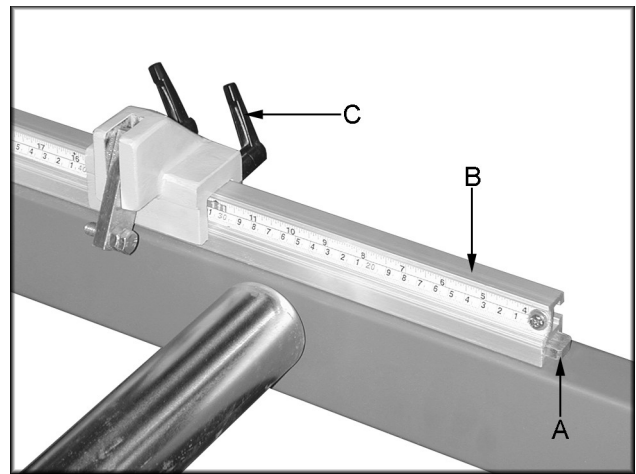

Figure 11
5. Line up the t-slot in rail with the square head bolts (A, Figure 11) in the roller table and slide the rail (B, Figure 11) into position.
6. Line up the square nuts on the stop handles (C, Figure 11) with the t-slot and slide the stops into position.